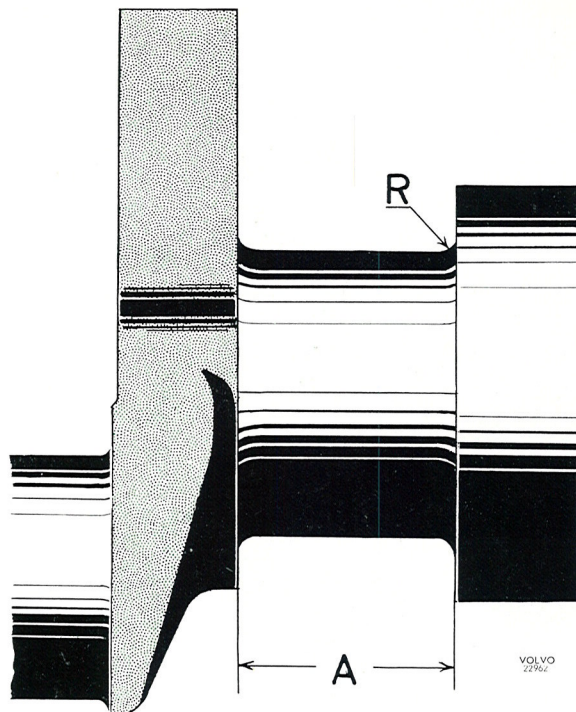

Fig. 2-40. Bearing journal
The fillets at the ends of the journals should have a radius of 2.0—2.5 mm (0.080—0.100") on all journals, see Fig. 2-40. The width measurement (A) for the pilot bearing depends on the size of the journal and should be ground in order to obtain the correct measurement.